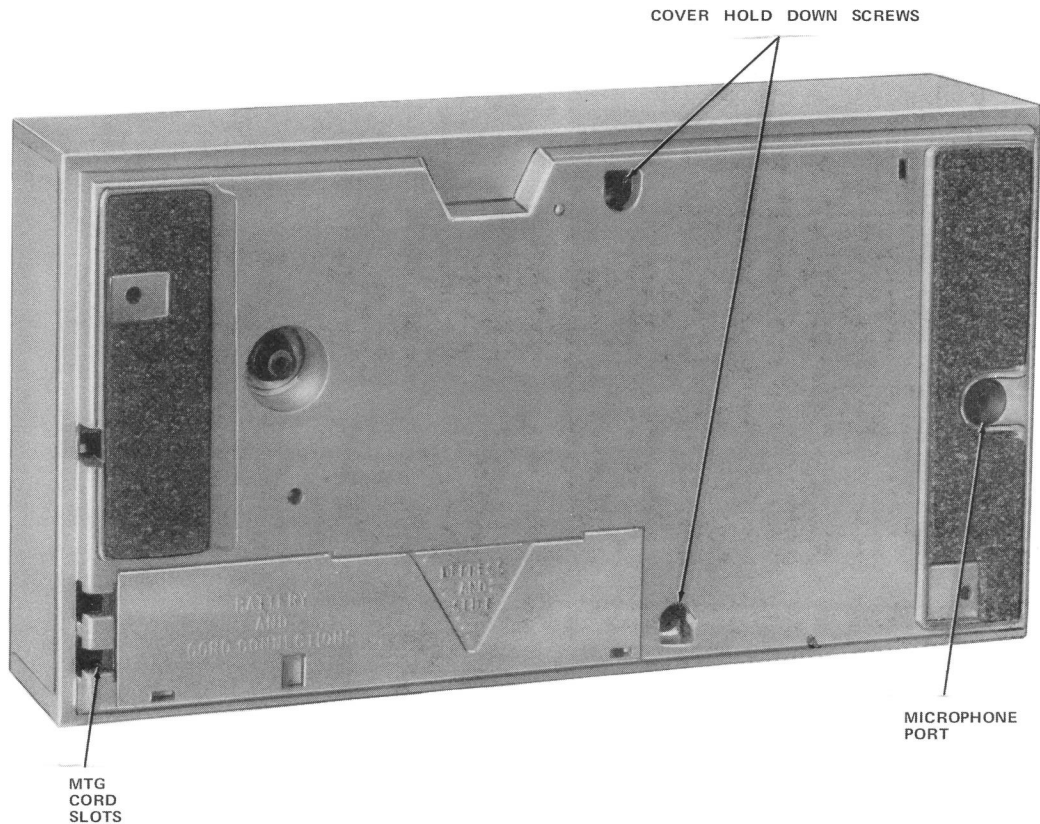

Fig. 4—Bottom of TELEHELPER Speakerphone
**Note:** Select a location for mounting the speakerphone which will provide a hard surface beneath the speakerphone with no obstruction to the microphone port (Fig. 4). Also avoid locating in noisy locations and near sources of heat and dust.
to the microphone port (Fig. 4). Also avoid locating in noisy locations and near sources of heat and dust.
speakerphone which will provide a hard surface beneath the speakerphone with no obstruction to the microphone port (Fig. 4). Also avoid locating in noisy locations and near sources of heat and dust.